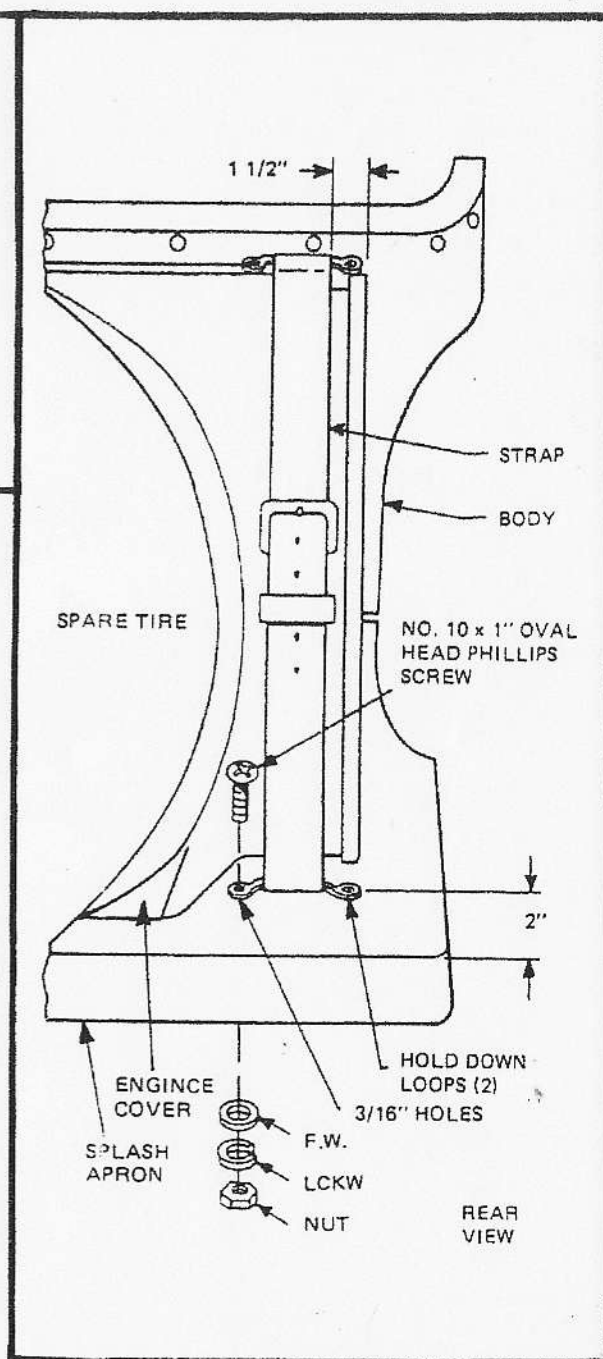

Figure 62
- ☐ The straps are installed 1 1/2" from the edge of the rear cover. (Figure 62) With strap attached, install two of the hold down loops provided into the splash apron, approximately 2" from the back edge. Drill 3/16" holes. Secure with No. 10 x 1" oval head phillips screw with flat washer, lock washer and nut. Pull strap taut and attach to top of cover, using same hardware as above. Adjust strap as necessary.